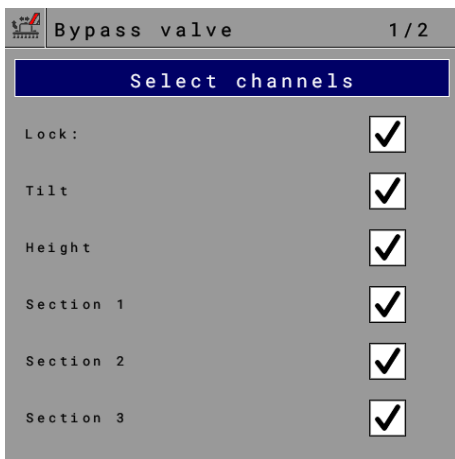

Fig. 52
**Enables / Disables** the bypass valve. Fig. 52